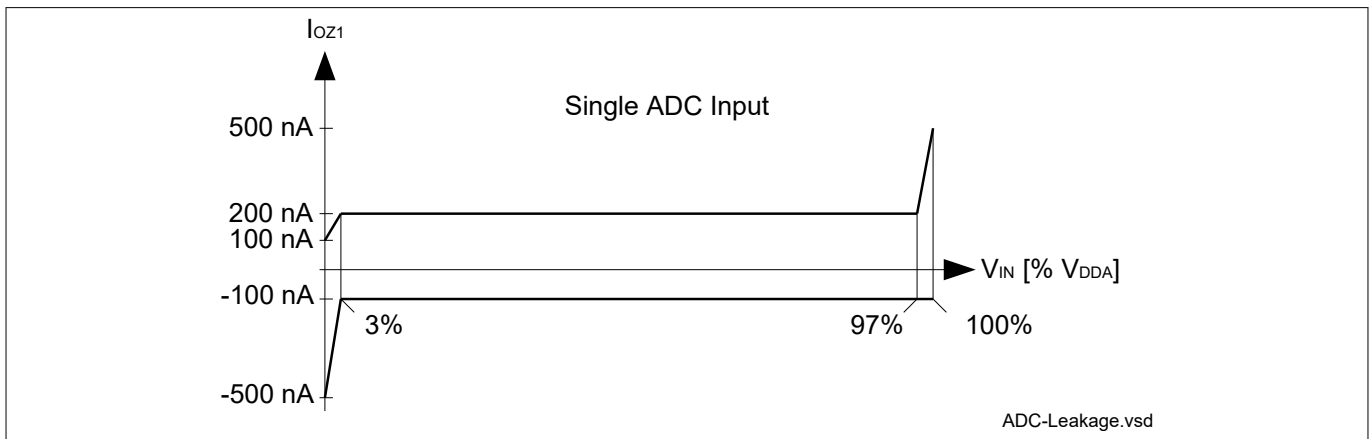

Figure 12 VADC Analog Input Leakage Current
- 4) The leakage current definition is a continuous function, as shown in figure ADCx Analog Inputs Leakage. The numerical values defined determine the characteristic points of the given continuous linear approximation - they do not define step function (see Figure 12).